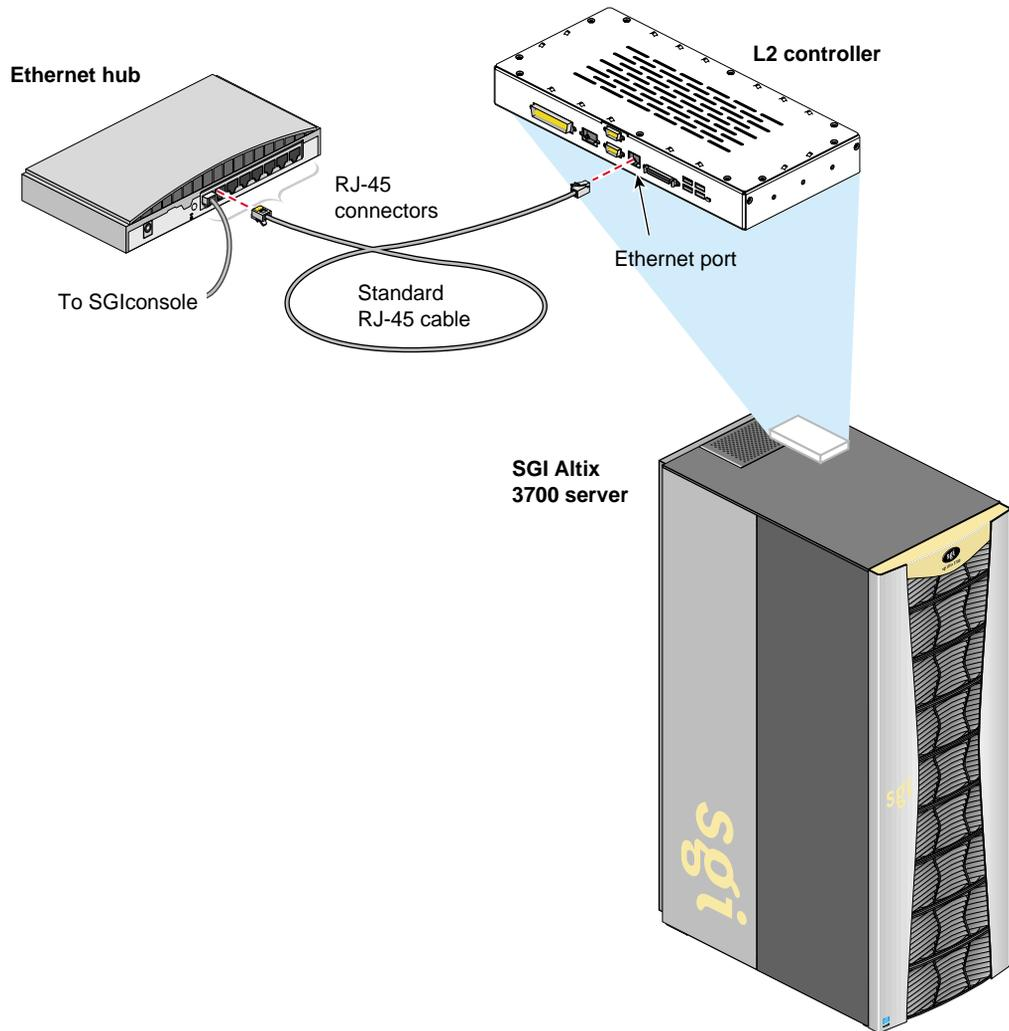

Figure 4-9 Connecting an Altix 3000 Series Server to an Ethernet Hub (3700 Shown, 3300 Similar)
6. Connect one end of the standard RJ-45 cable to one of the RJ-45 jacks on the Ethernet hub. Connect the other RJ-45 connector end to the L2 controller's RJ-45 Ethernet jack. See Figure 4-9.